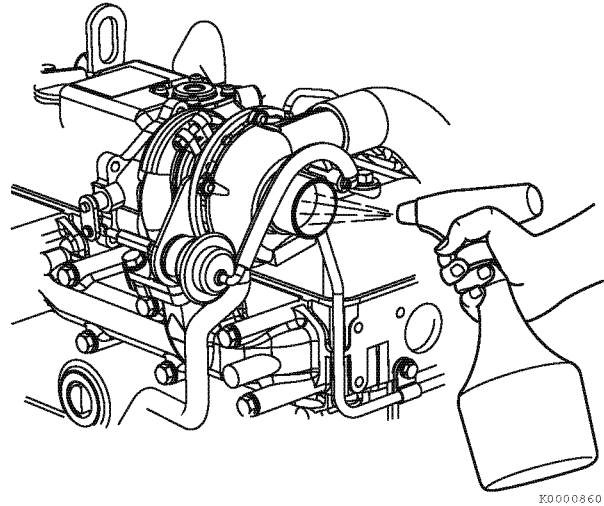

Figure 10-3
2. While the engine is operating at normal load (75 - 80 % of maximum), slowly and evenly spray 2 - 3 oz (60 - 90 cc) of blower wash fluid over a period of ten to fifteen seconds into the air inlet (**Figure 10-3**).